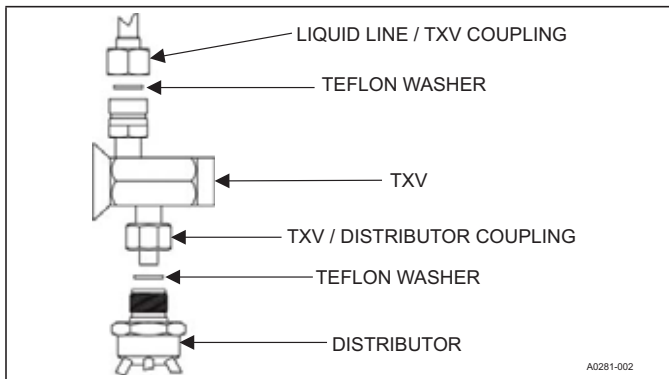

FIGURE 17: TXV Installation
4. Install the thermal expansion valve to the distributor assembly with supplied fittings. Ensure Teflon washer is seated in distributor. Hand tighten and turn an additional 1/4 turn to seal. Do not over-tighten fittings. See Figure 17.